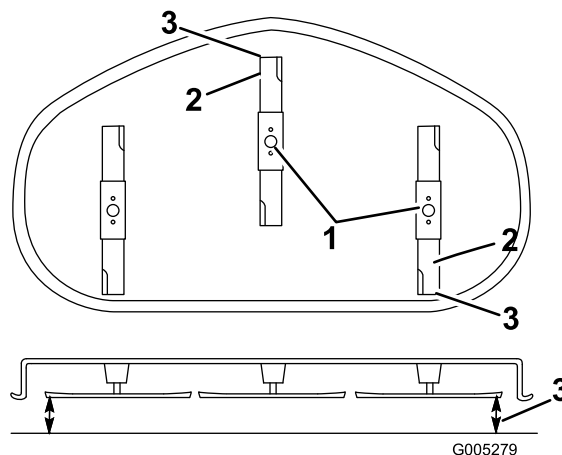

Figure 42
surface (Figure 42). If the front blade tip is not 1/16-5/16 inch (1.6-7.9 mm) lower than the rear blade tip, adjust the front locknut.
5. Set the height-of-cut at position **3** [3 inch (76 mm)] and carefully rotate the blades so they are facing front to rear (Figure 42).
is 1/16-5/16 inch (1.6-7.9 mm) lower than the rear blade tip (Figure 42).